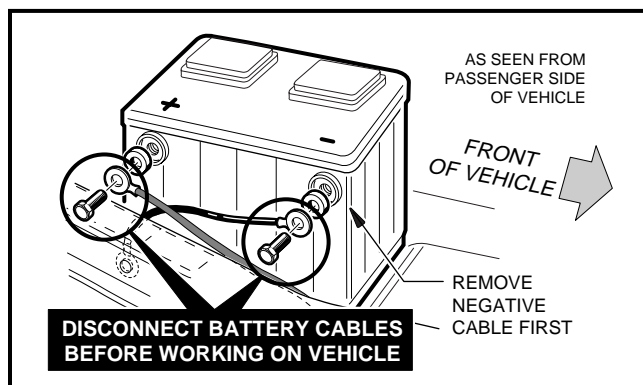

Figure 15-1 FE350 Battery
11. Connect battery cables, positive (+) first and tighten terminals to 20 ft-lb (27.1 N·m) (**Figure 15-1, Page 15-2**). Coat terminals with Battery Protector Spray (Club Car Part No. 1014305).